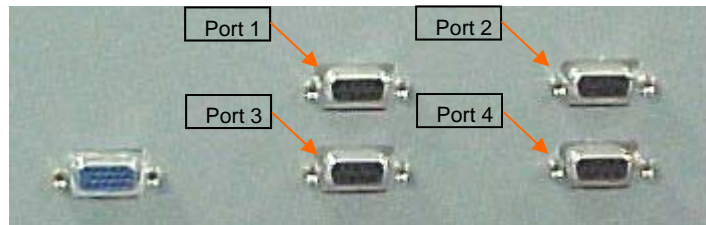

Figure 5
3. Communication Port 1 is for the fuel communication from the VeriFone console. See Figure 5. Connect adapter supplied and tighten the screws.